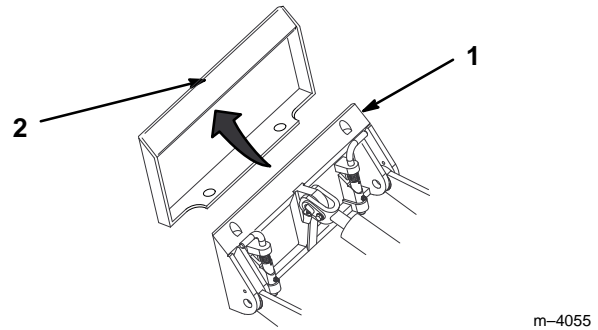

Figure 7
3. Drive forward, positioning the mount plate into the upper lip of the receiver plate (Fig. 7).